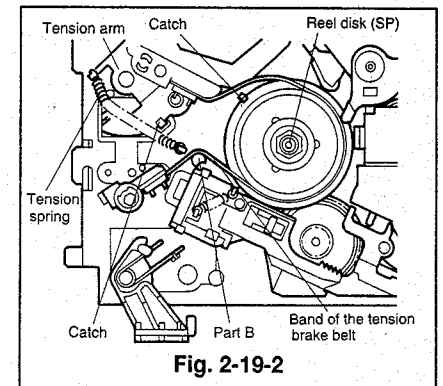
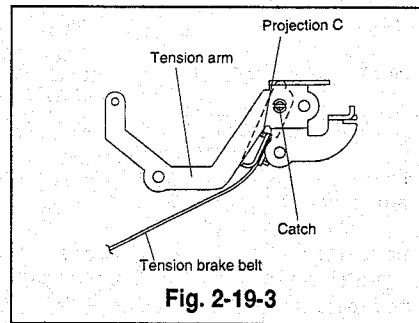
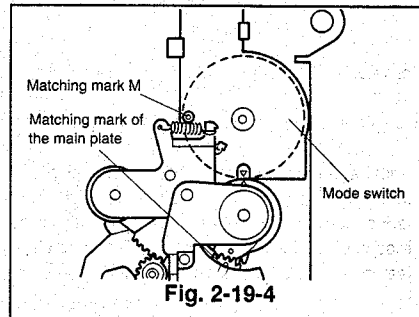
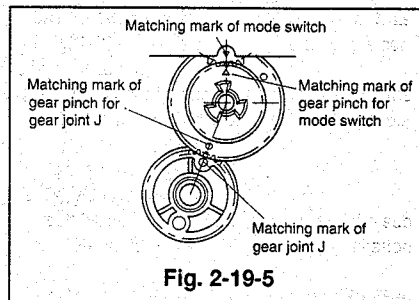

Fig. 2-19-2
Fig. 2-19-3
Fig. 2-19-4
Fig. 2-19-5
- 5 Remove the tension spring, unfasten the catch shown in Fig. 2-19-2, and raise the tension arm upward to remove it.
- 6 Reverse the tension arm, unfasten the catch with a tweezers as shown in Fig. 2-19-3 to remove the tension brake belt.
- ① Insert the catch in the position of the tension arm as shown in Fig. 2-19-3 to fasten the tension brake belt on the tension arm. (Take care not to let projection C, next to the catch of the tension brake belt touch the tension arm.)
- ② Install the tension arm, where the tension brake belt is fastened, on the main plate.
- ③ Fasten the tension brake belt around the supply reel disk. (The band of the tension brake belt must pass the outside of the catch shown in Fig. 2-19-2 and inside of the part B.)
- ④ Attach the tension spring.
- ⑤ Install the sub brake(SP) and sub spring(SP). (Refer to Para. 2-14 for the installation method.)
- ⑥ Supply voltage (approximately 5V), reversing the polarity used in ② of the Removal method, to set the motor to the unloaded position.
- ⑦ Make sure that the holes (matching mark M) on the body and cogwheel of the mode switch align with each other as shown in Fig. 2-19-4. At the same time confirm that the hole of the gear pinch aligns with the matching marks of the gear joint J and the ∇ mark on the mode switch cogwheel, refer to Fig. 2-19-5. This indicates the J deck is in the EJECT mode.
- ⑧ If the deck is not completely set to the eject mode, turn part D of the pulley worm J by hand to set the eject mode.